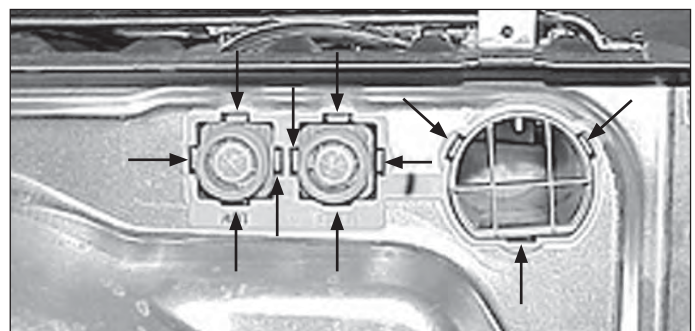

Figure 4-49.
2. Using a small flat bladed screwdriver, release the eight locking tabs around the water inlet tubes while pushing on the grommet rim from inside the washer. (See Figure 4-49)
3. Using a small flat bladed screwdriver, release the three locking tabs around the overflow/vent tube while pushing on the grommet rim from inside the washer. (See Figure 4-49)